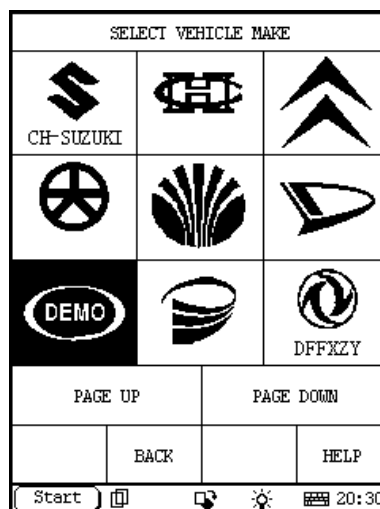

Figure 2-49 (click 'DEMO')
2. Download and install Demo program from www.x431.com, actuate Demo program and enter interface as shown in below figures from figure 2-49 to figure 2-58.